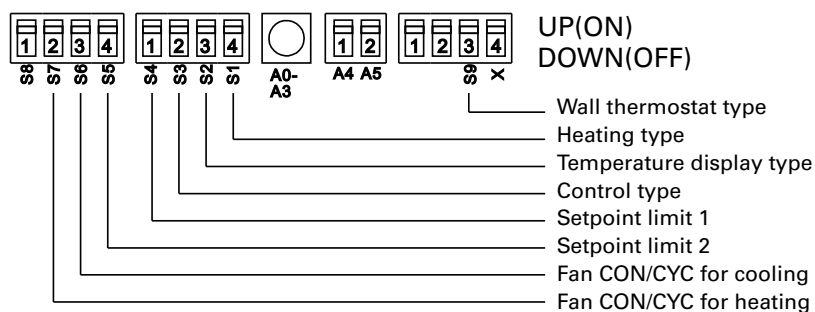

Fig.3
- See Table 1 and Fig.3 for Dip Switch configurations and functions of each dip switch position.